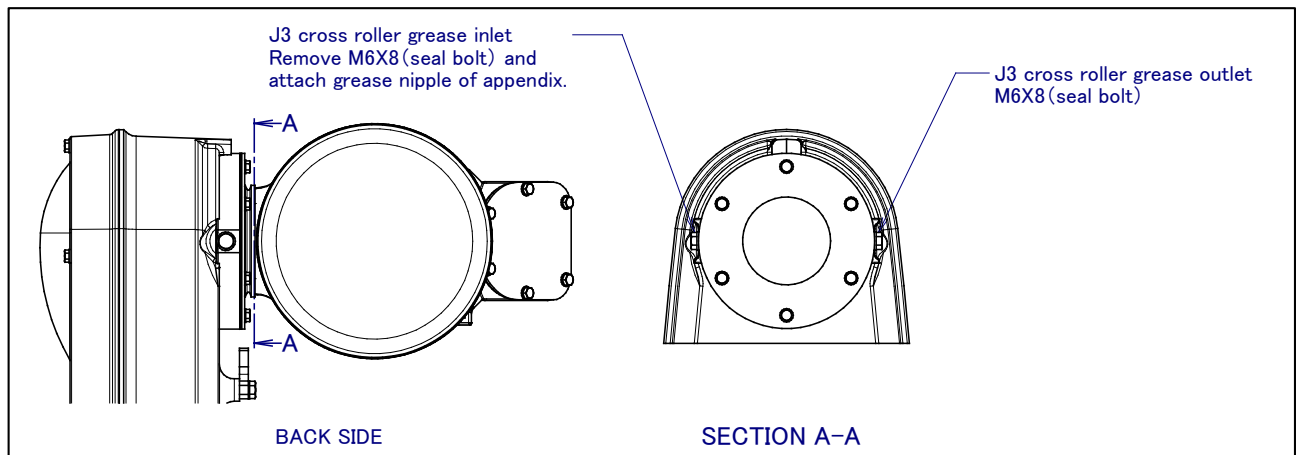

Fig.7.3.6 (a) Replacing grease of J3 cross roller
- 3 Remove seal bolts of grease inlet and outlet. Attach grease nipple which is attached to robot. (Fig.7.3.6 (a))